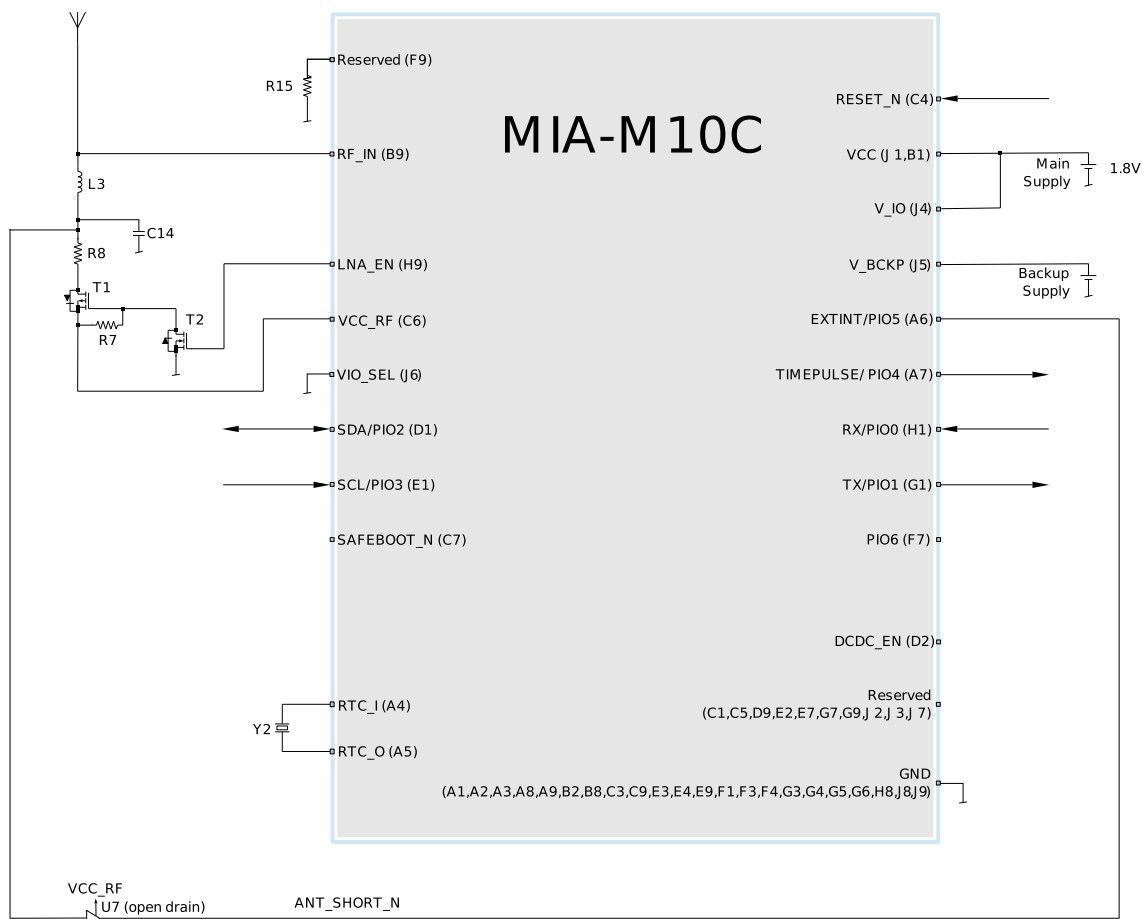
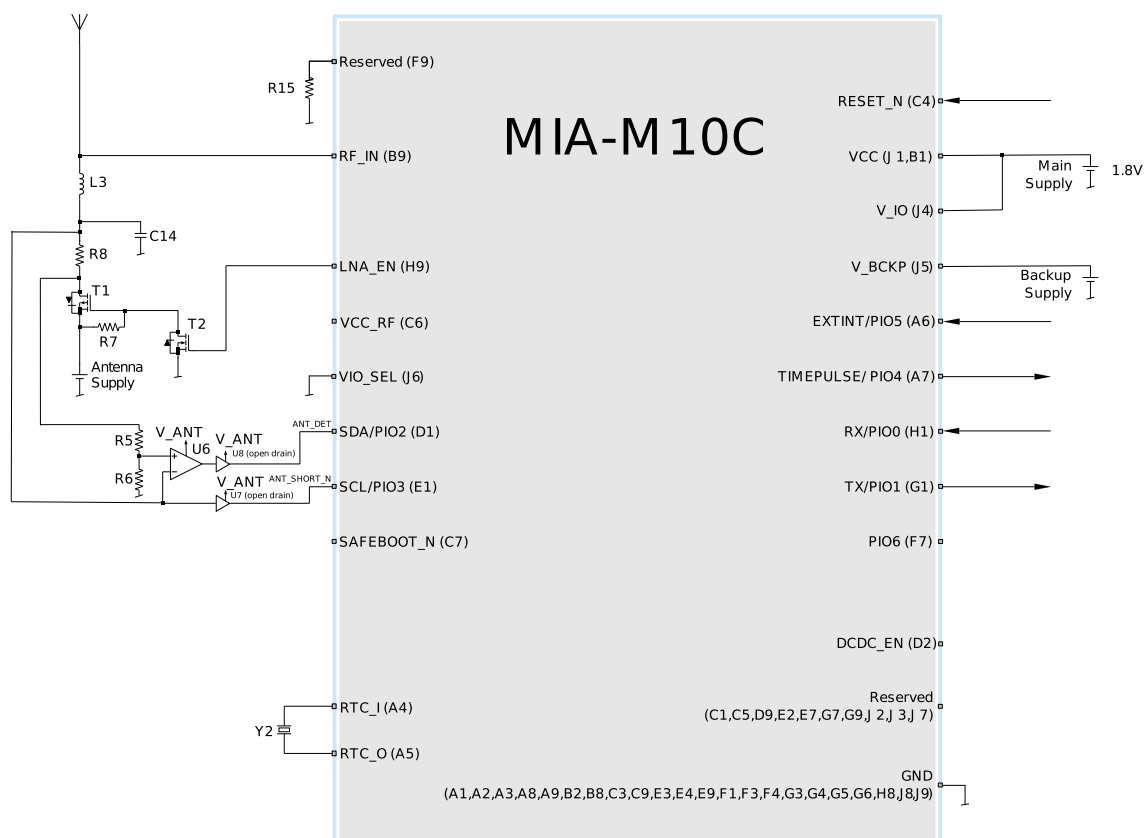

Figure 37: 2-pin antenna supervisor design
Figure 38: 3-pin antenna supervisor design
- This design uses an active antenna, which can be supplied either with the VCC_RF output from MIA-M10C, as shown in Figure 37, or from an external supply, as shown in Figure 38. It is also possible to use a passive antenna in the design. Only use a good quality passive antenna to avoid performance degradation compared to an active antenna setup.
Figure 37 and Figure 38 show a reference design for a 2-pin and 3-pin antenna supervisor design respectively. Here are the key features:
- UART and I2C communication interfaces are available. I2C PIOs (SDA and SCL) can be used in a 3-pin antenna supervisor design as shown in Figure 38. In this case, the I2C interface needs to be disabled before assigning the new function to the PIOs.
Table 40 lists the configuration settings required for the 2-pin antenna supervisor reference design given in Figure 37.
Table 41 lists the configuration settings required for the 3-pin antenna supervisor reference design given in Figure 38.